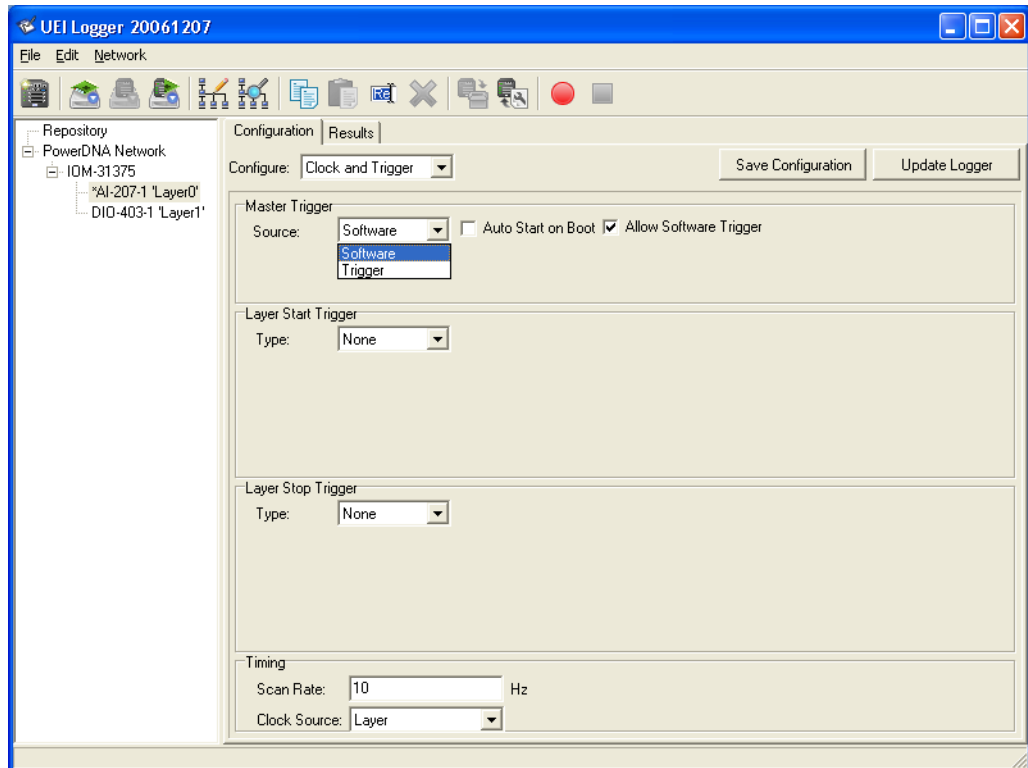

Figure 2-17. Configuring Clock and Trigger for an AI-207 Layer
- STEP 1:** In the left screen panel, click on Layer0 to display the AI-207 configuration screen. Then, in the Configure box, pull down the menu and select the “Clock and Trigger” option. The screen shown in **Figure 2-17** appears.